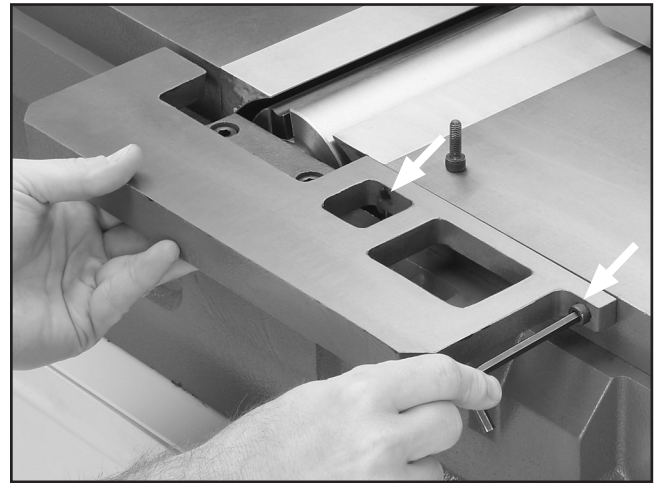

Figure 12. Installing extension table.
1. Attach the extension table to the infeed table with the cap screws, as shown in **Figure 12**, but do not fully tighten the cap screws yet.